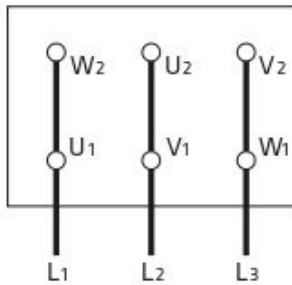

Figure 11a. Δ - connection
- The mains connection on the terminal box depends on the nominal power of the motor, the power supply and the type of connection. The necessary connection of the bridges in the terminal box is shown in the following (*Table 3 ve Figure 11a, 11b, 11c*).